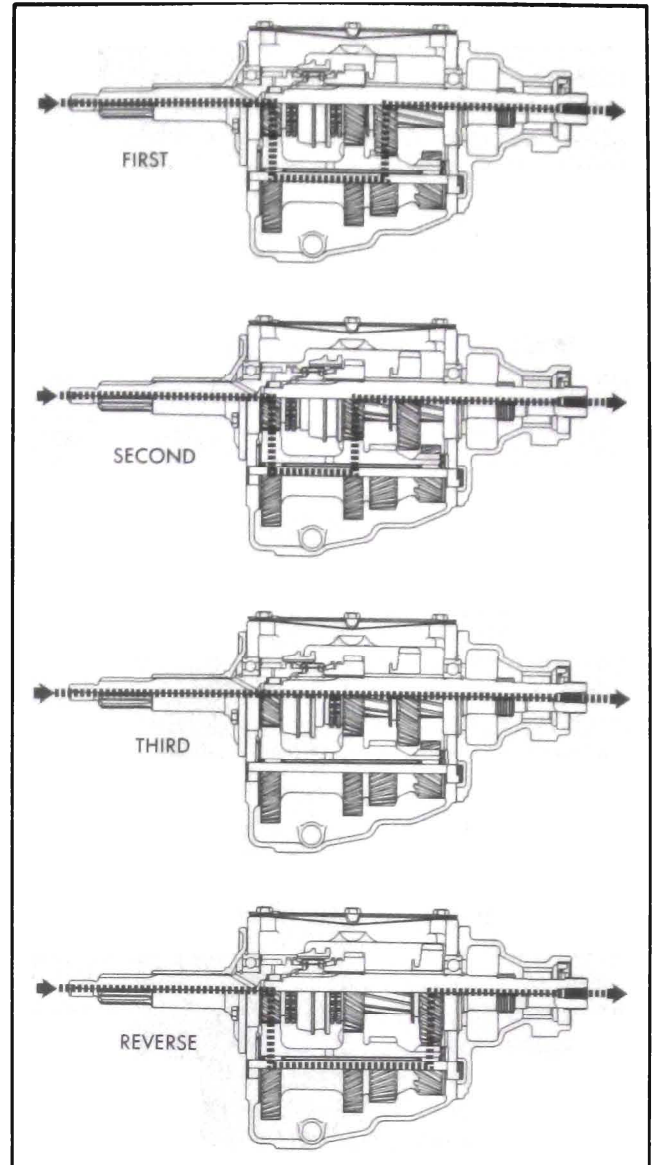

Figure 4-8—Power Flow Through Transmission
1. In first speed, the first speed sliding gear is slid forward on the mainshaft splines so that it engages its corresponding gear on the counter gear. See Figure 4-8 to follow the power flow.
2. In second speed, the clutch sleeve is slid rearward on the synchronizer hub so that it first synchronizes the speed of the second gear, then engages the projecting teeth on the second gear. See Figure 4-8.
3. In third speed, the clutch sleeve is slid forward on the synchronizer hub so that it first synchronizes the speed of the drive gear, then engages the projecting teeth on the drive gear. See Figure 4-8.